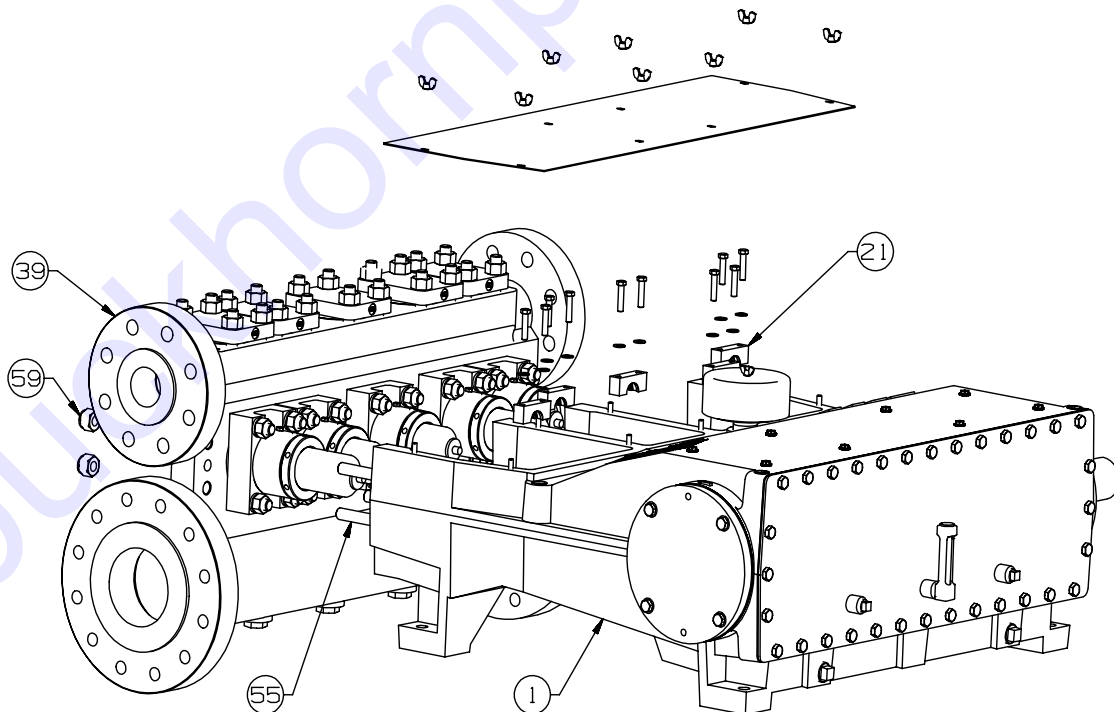

Figure 6: Fluid Cylinder Removal
2. Unbolt the plunger clamps (21) and remove them from the plunger (45) and extension rod (20). Slide all of the plungers forward as far as possible. See Figure 6.
4. Remove the lock nuts (59) holding the fluid cylinder assembly on to the power frame (1). Support the weight of the fluid cylinder assembly and slide the assembly away from the power frame (1). See Figure 6.
5. Installation will be the reverse of this procedure. Torque all fasteners as outlined in the Fastener Torque Requirements section of this manual. Please note that if the lock nuts (59) on the fluid cylinder studs (55) are not adequately torqued a failure is highly likely.